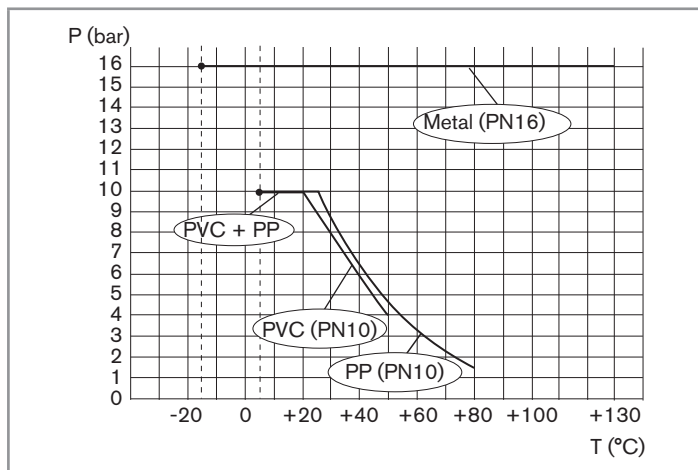

Fig. 1 : Fluid pressure / fluid temperature dependency curve for Type S022 adapters and fittings
Fluid temperature	depends on the device inserted and the materials from which the product is made. Refer to the related Operating Instructions and to the fluid pressure / fluid temperature curve in <a href="#">Fig. 1</a> . If the ranges are different, use the most restrictive range.
Pressure class	depends on the device inserted and the material from which the product is made. Refer to the related Operating Instructions and to the fluid pressure / fluid temperature curve in <a href="#">Fig. 1</a> . If the pressure classes are different, take the lowest value into account.
- ▶ Take into account the fluid pressure / fluid temperature dependency according to the materials from which the product is made (see Fig. 1) and to the measuring device used (see the related Operating Instructions).